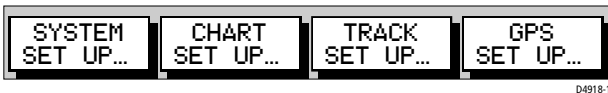

Figure 3-41: Set Up Soft Keys
1. From the plotter display, press the **MENU** key to display the set up soft keys as shown in *Figure 3-41*.